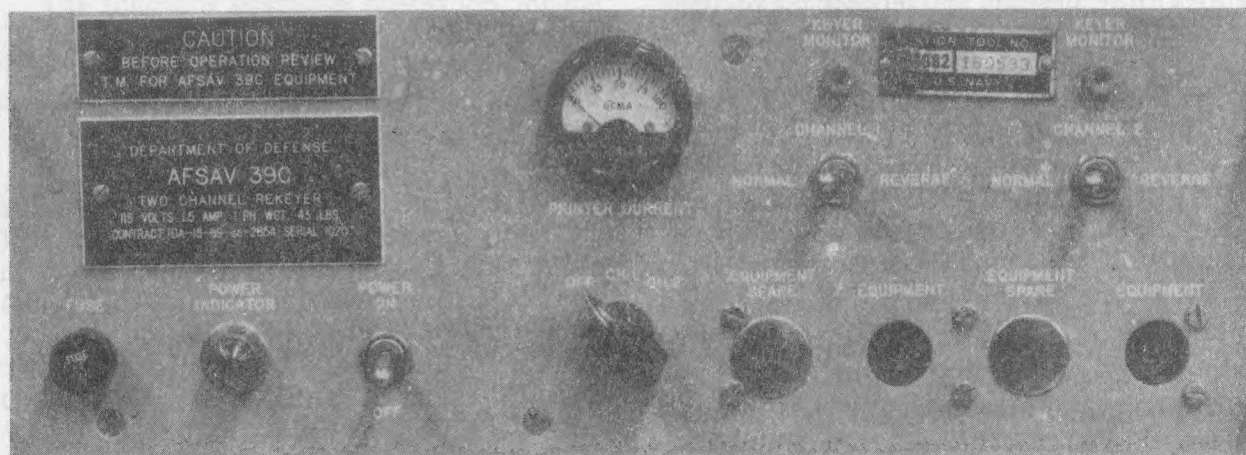

Figure 4-15.—CV-1627/URR two-channel rekeyer.
The CV-1627/URR (AFSAV 39-C) two-channel rekeyer (figure 4-15) is used to convert Keyed Tone (KT) signals received from the AN/FRA-86, or similar terminal equipment,
The operator controls and functions explained in Table 4-4 below, can be found on the front panel on the CV-1627/URR (see figure 4-15).